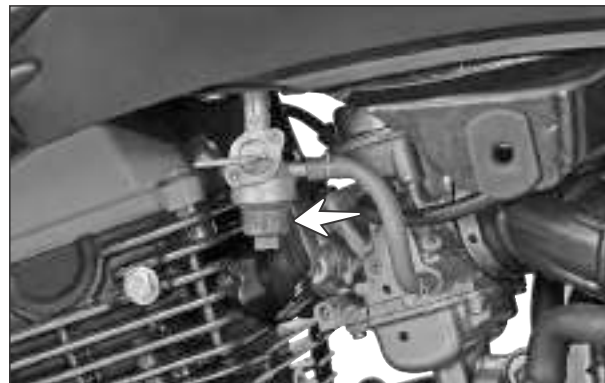

Fig. 2.65
- ! Turn the fuel cock assembly lever to 'OFF' position and remove the fuel cock sediment bowl. (Fig. 2.65)